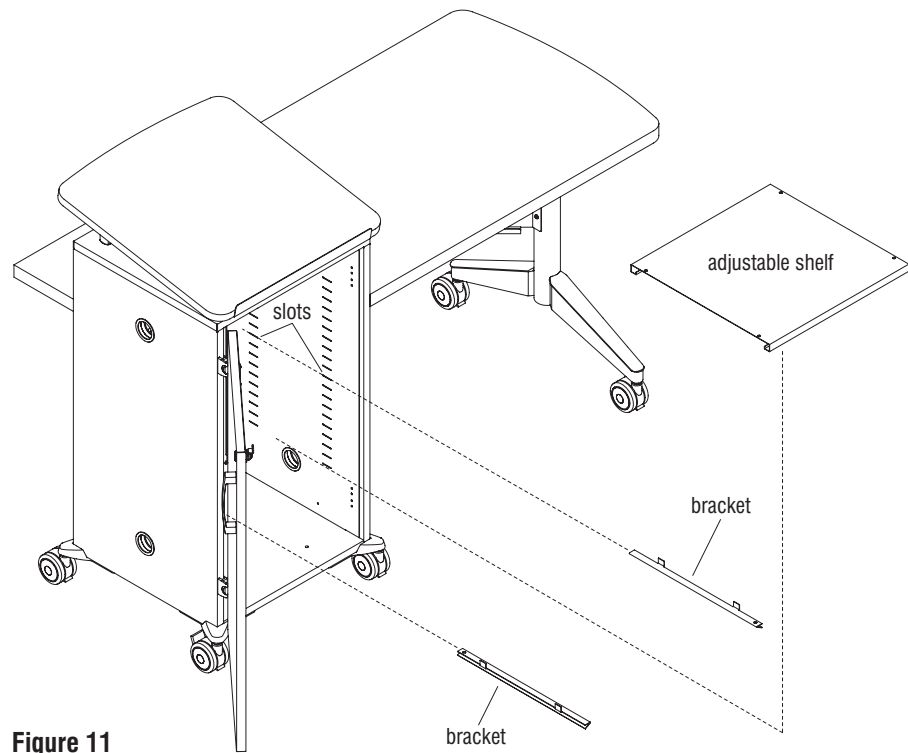

Figure 11
2. Hook the shelf brackets into the slots at the inside of the storage tower as illustrated. Make sure the brackets are at the same height on both sides (Figure 11).
3. Install the shelf by setting it onto the brackets. Make sure the shelf is pushed all the way back into the storage tower (Figure 11).